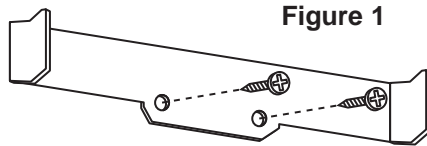

Figure 1
STEP 2 Attach bottom mounting bracket using self-tapping screws provided (Figure 1).